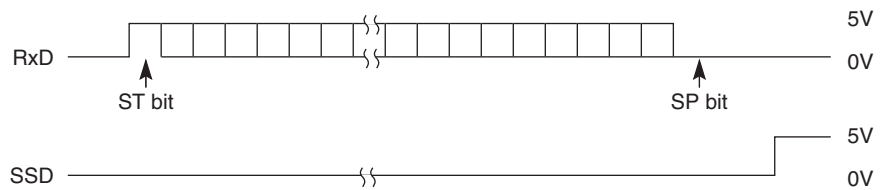

Figure B-3-4
- Yes Is the RxD of 01C as specified in Figure B-3-4?
- ② In receiving by serial interface, printing data is omitted or printing operation is not performed.
- Are RxD and SSD of 01C as specified in Figure B-3-4?